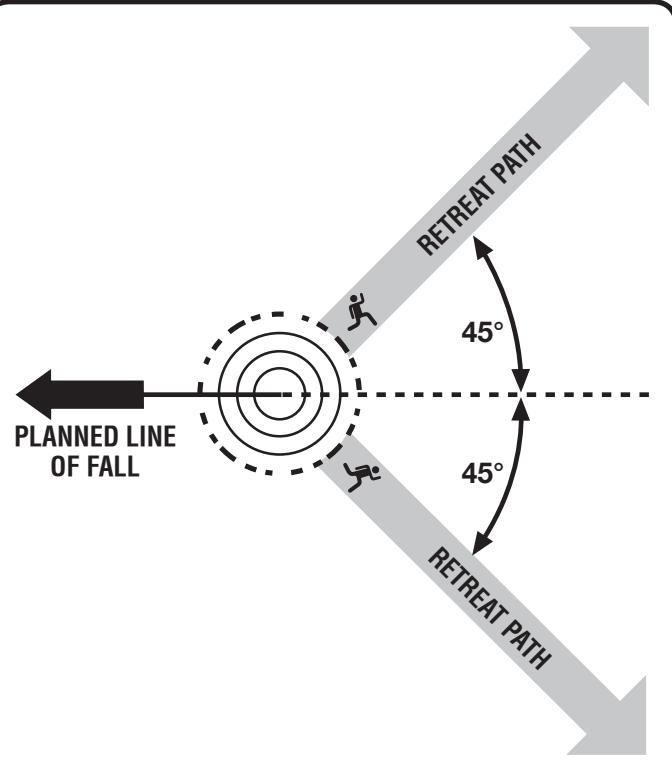

Fig. 19
See Figures 19 - 22.
- Before any cuts are started, pick your escape route (or routes in case the intended route is blocked); clear the immediate area around the tree and make sure there are no obstructions in your planned path of retreat. Clear paths of safe retreat should extend back and diagonally (45°) to the rear of the planned line of fall. When the tree begins to fall, you should retreat away from the direction of fall along a retreat path and at least 20 feet away from the trunk in case it kicks back over the stump. See *Figure 19*.